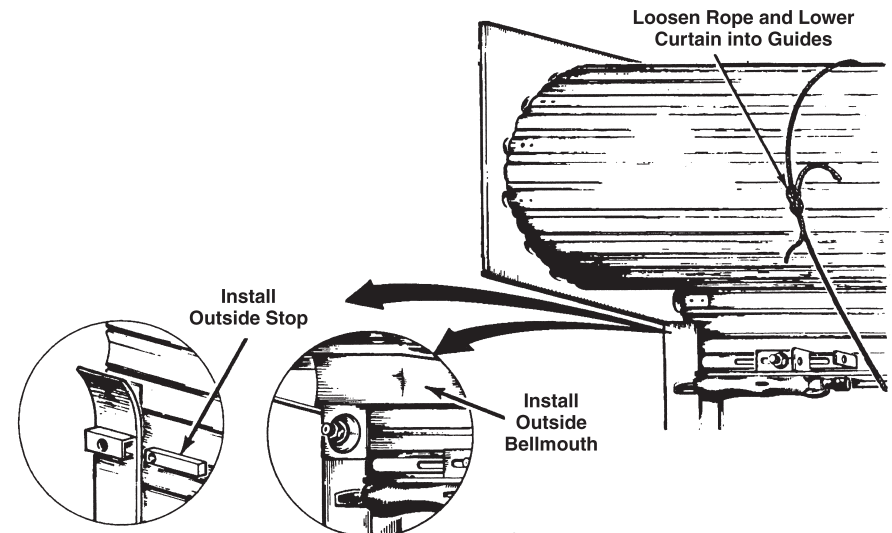

Figure 23
Install inside bellmouths and attach locking pliers approximately 4" below entrance to both LH and RH guides, as shown in Figure 23.
- Install outside stops. See Figure 23 for flared guides and for guides with bellmouths.